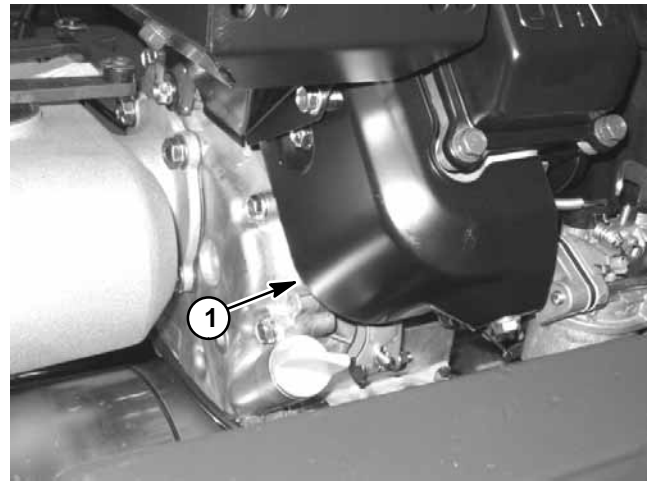

Figure 2
2. Clean cooling fins on cylinder and cylinder head. Remove engine cylinder shroud from engine for more thorough cleaning (Fig. 2).